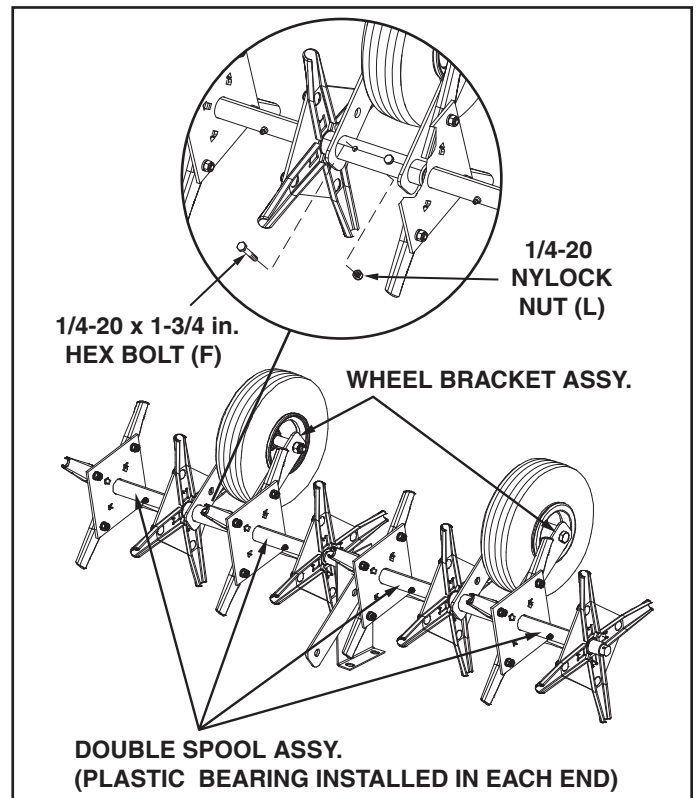

FIGURE 6
- Slide two double spool assemblies onto the shaft (one on each side). See figure 6.
- Slide both wheel bracket assemblies onto the shaft (one on each side) with the head of the wheel hex bolt facing outward. Fasten the wheel bracket assemblies to the shaft (in the opposite direction as the lift handle) using four 1/4-20 x 1-3/4 in. hex bolts and four 1/4-20 nylock hex nuts. See figure 6.